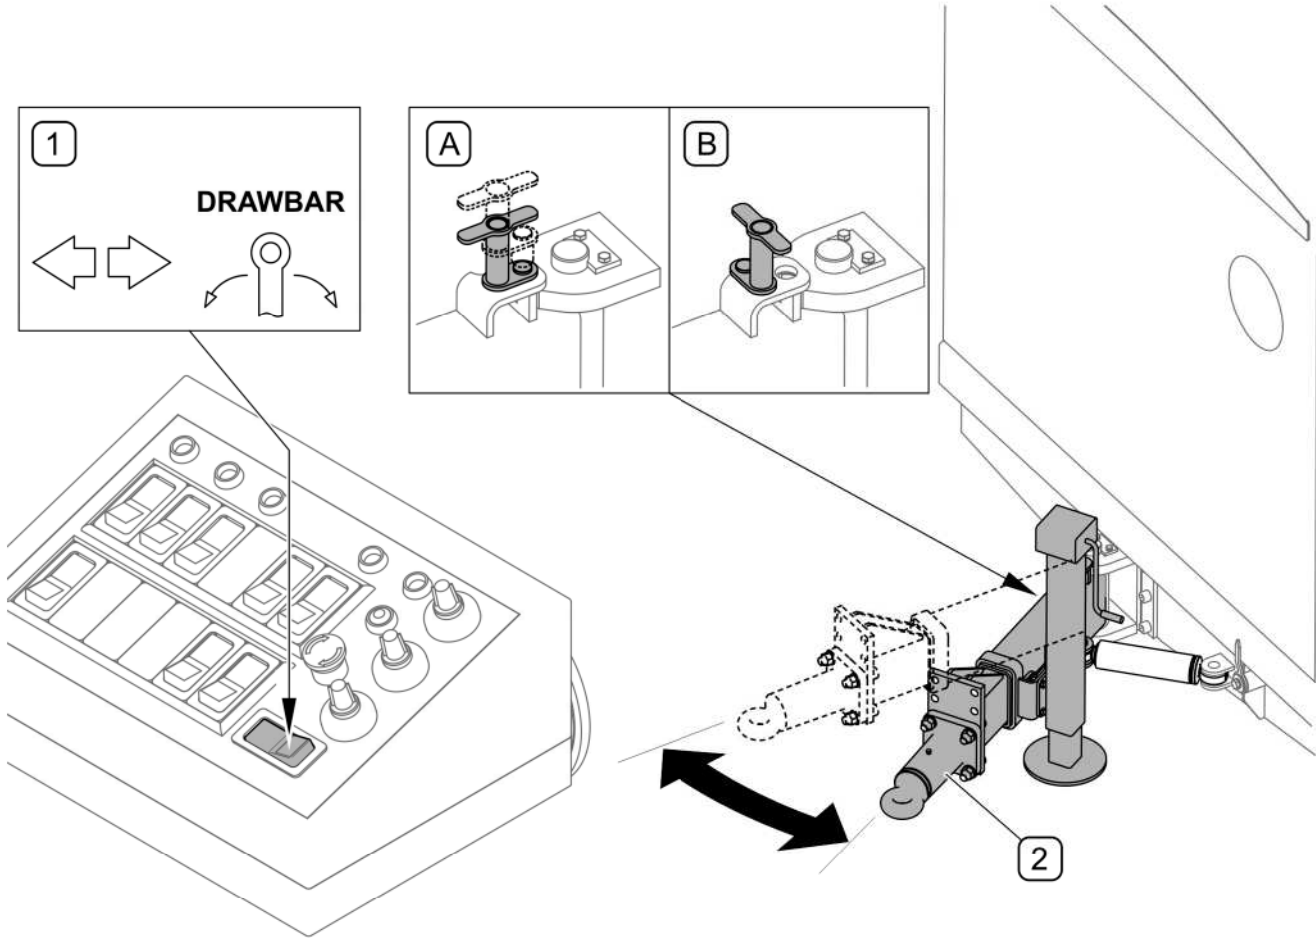

FIG. 4.11 Controlling the sweeper's tilting drawbar
The sweeper's tilting drawbar is controlled from operator cab by means of switch (1) (FIG. 4.11). The hitch is set in tilted position if sweeping has to be performed near building walls, kerbs, etc. Thanks to such hitch position, the sweeper's route can be shifted to the right with regard to the tractor's route. Thanks to adjustable sweeper's tilting drawbar, the sweeper can accurately follow the tractor, particularly when sweeping on turns, around columns, posts and benches.
Controlling the sweeper's tilting drawbar is possible if the drawbar is unlocked (B, FIG. 4.11)